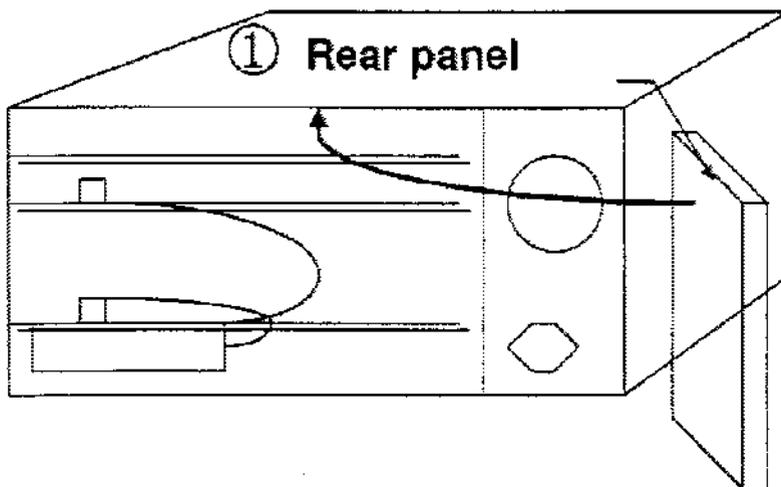
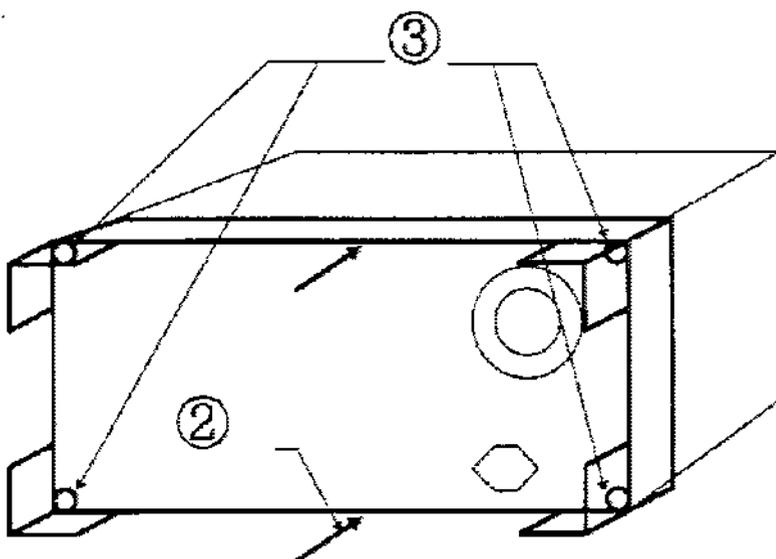
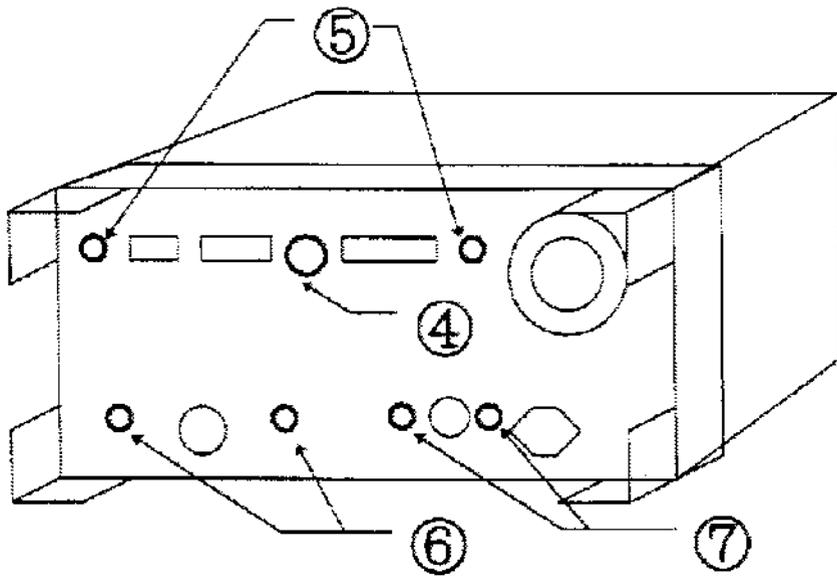

Fig.17
Fig.18
Fig.19
Process number such as ①,② are same as number of Fig.17,18,19.
- ① Install rear panel to main frame.
- ② Install "FRAME REAR" to main frame.(Refer to Fig.18)
- ③ Screw FRAME REAR back to main frame by 4pcs Hexagon head screws
- ④ Fix Hexagon nut and washer back on EXTERNAL TRIGGER terminal on the rear panel. (Refer to Fig.19)
- ⑤ Screw CPU/AD board back on the rear panel.
- ⑥ Screw RF block back on the rear panel.
- ⑦ Screw Probe power back on the rear panel.(If it installed)